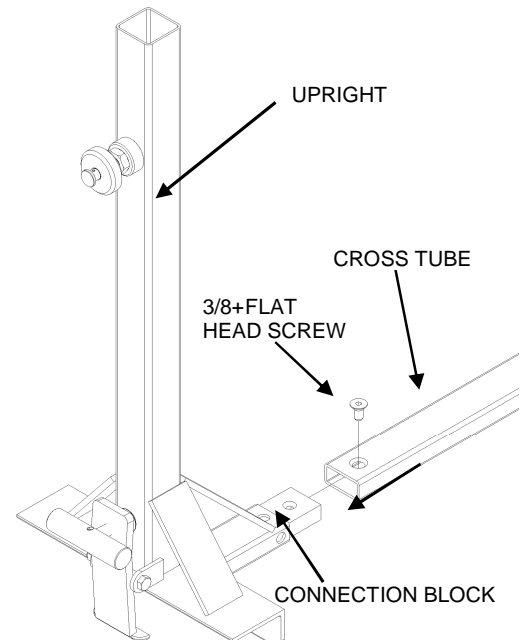

Fig. 1
2. Slide the Cross Tube over the connection block with the hole facing upwards as shown. Line up the holes and thread the supplied 3/8+ Flat Head Screw into the hole. Tighten screw firmly with a 7/32+Allen key. (**Fig. 1**)